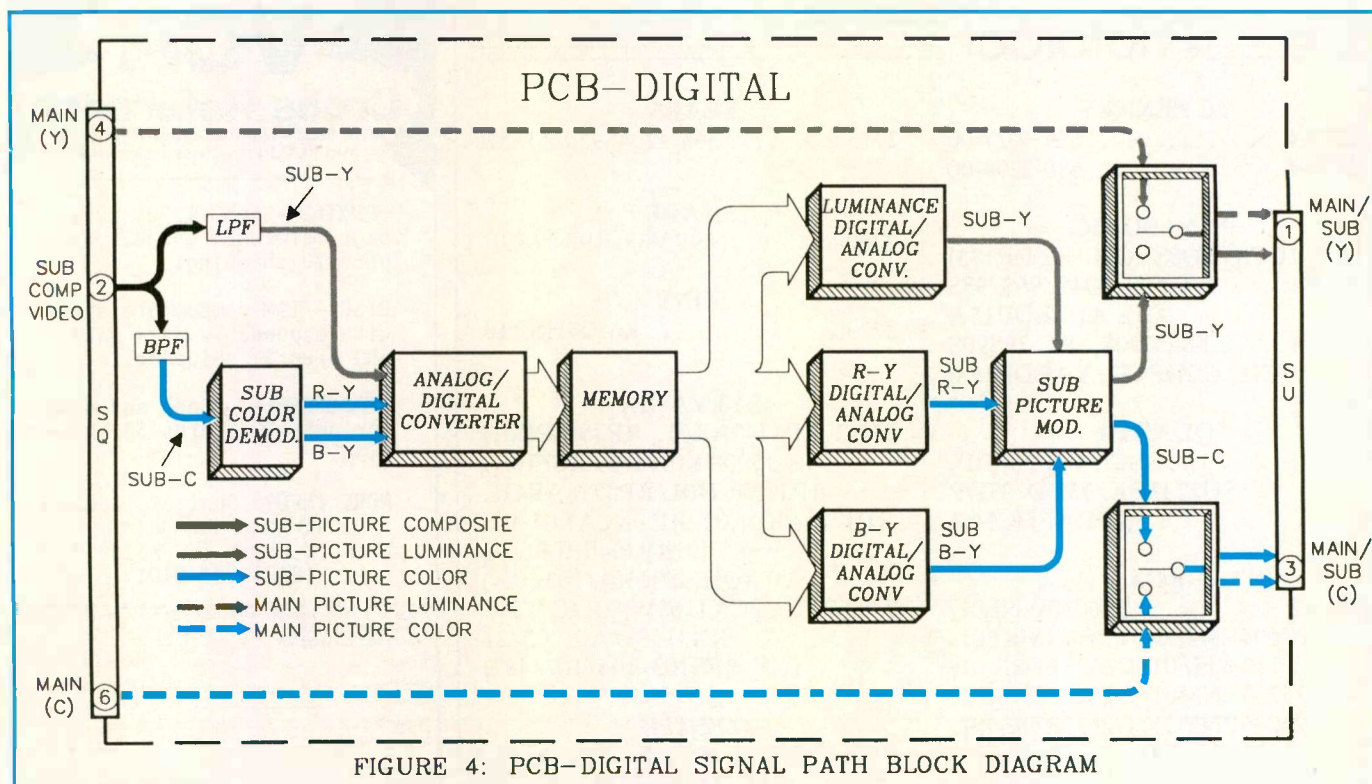

Figure 1. PCB-digital signal path block diagram.
Figure 1 is the basic block diagram of the signal processing circuitry on the PCB-DIGITAL. Main picture luminance (Y) and chroma (C) are input to the board at pins 4 and 6 of the SQ connector, respectively. Sub-picture composite video (combined luminance and chroma) is input at pin 2 of the SQ connector.